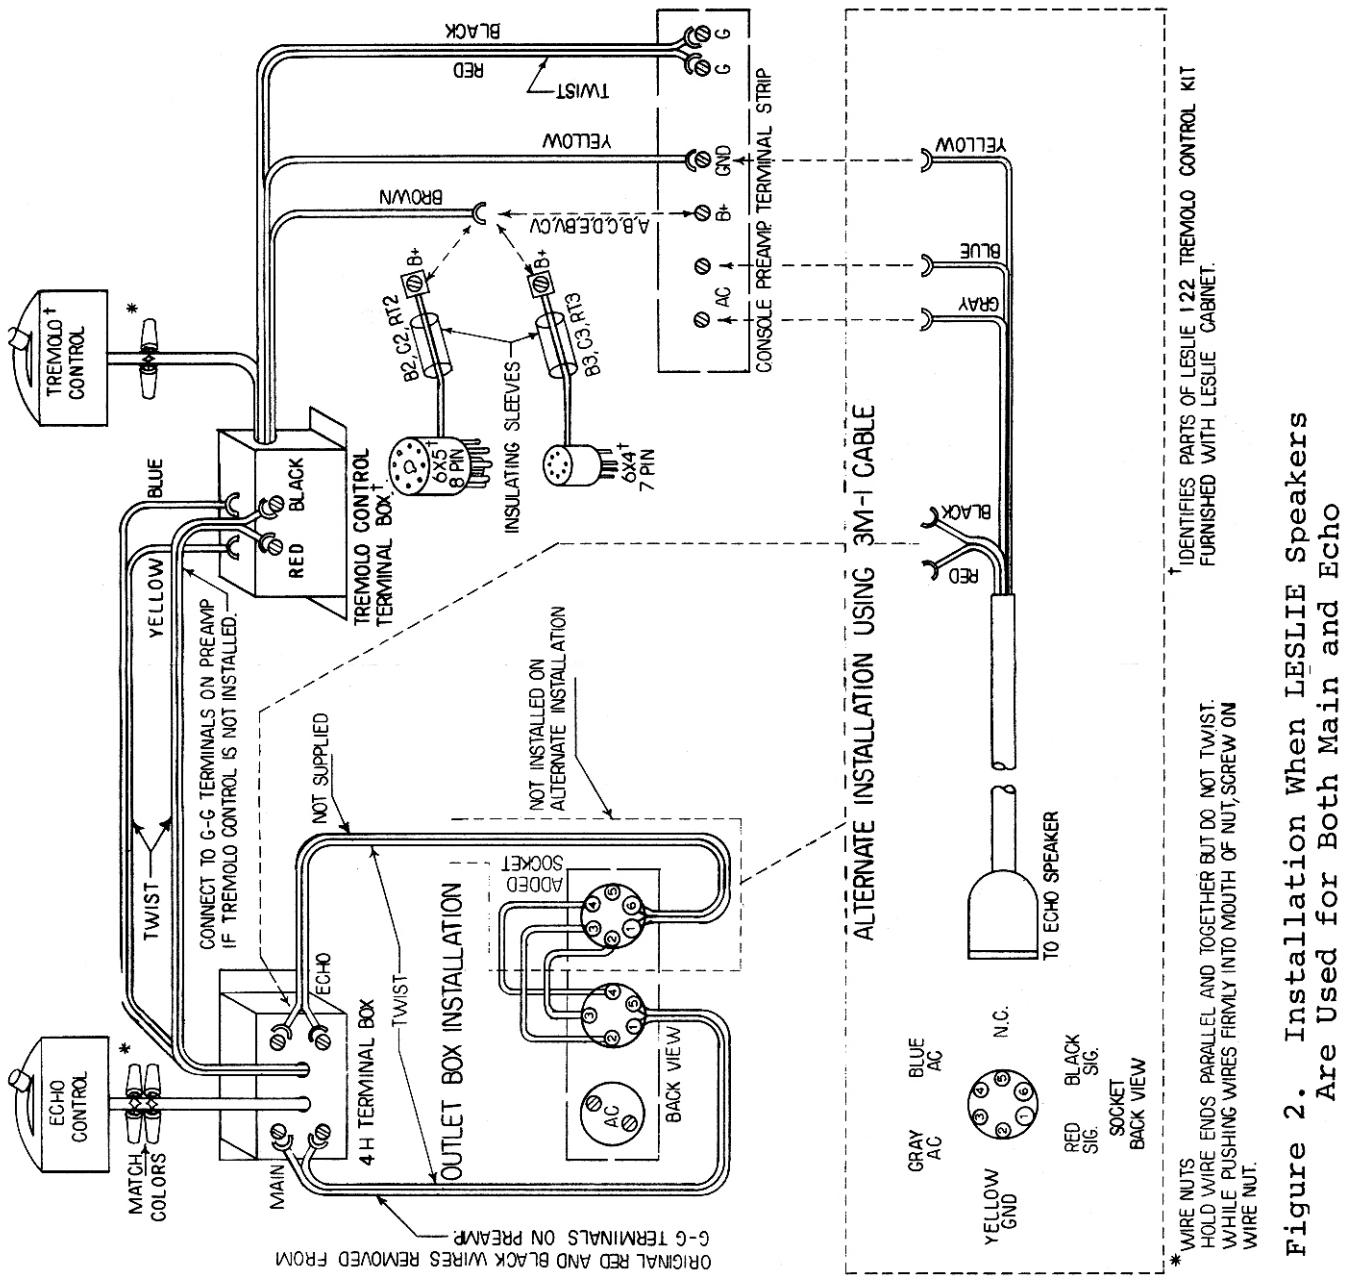

Figure 2. Installation When LESLIE Speakers Are Used for Both Main and Echo
3. Connect the 4H echo control as shown in figure 2 or 3, as appropriate.